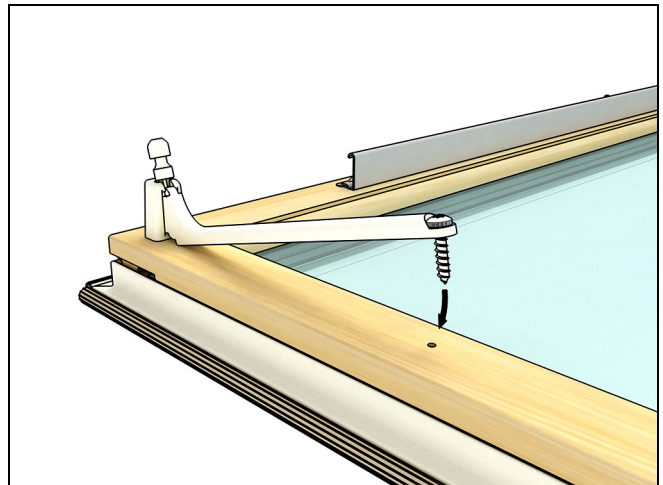
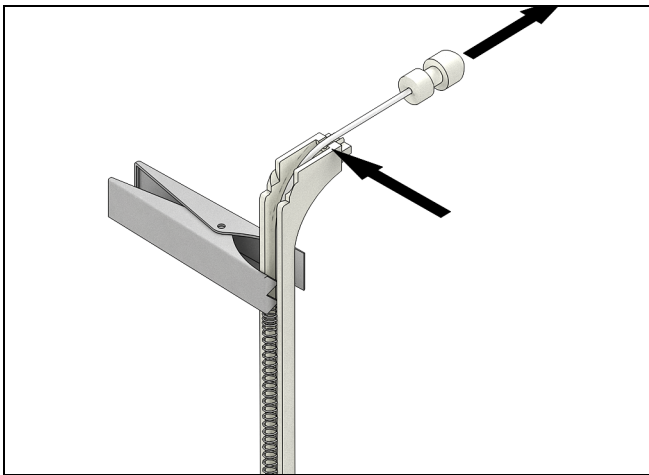

Figure 6 Swing housing into plug while holding spring.
Figure 7 Hold tether spring with tether spring clamp.
- Pull tether spring back and hold with tether spring clamp. See Figure 6 and Figure 7.